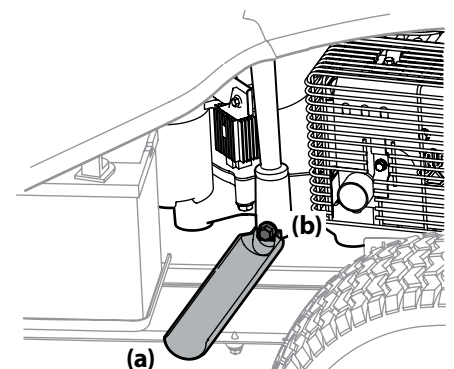
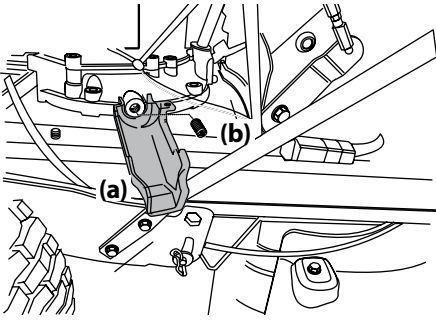

Figure 4-4
Figure 4-5
5. Snap the small end of oil drain sleeve (a) onto the space provided around the oil drain plug (b). See Figure 4-4 or Figure 4-5 for the two possible oil drain sleeves and refer to the applicable image for your riding mower.